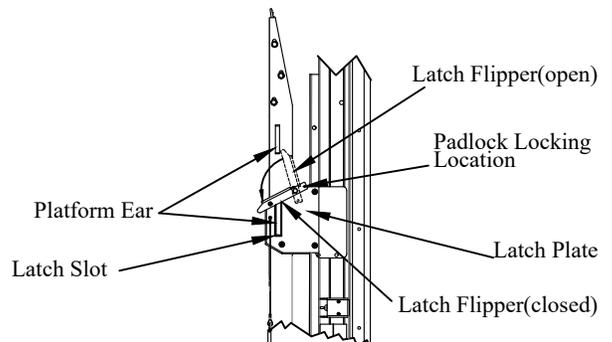

Figure 22: Steps 16 & 17.
- Step 17. Always install the latch padlock and deactivate the control when not in use (Figure 22).